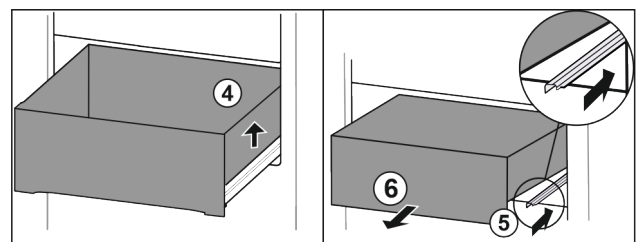

Fig. 72
- ▶ Lift drawer on the right. Fig. 72 (4)
- ▶ Insert right rail. Fig. 72 (5)
- ▶ Remove drawer to the front. Fig. 72 (6)